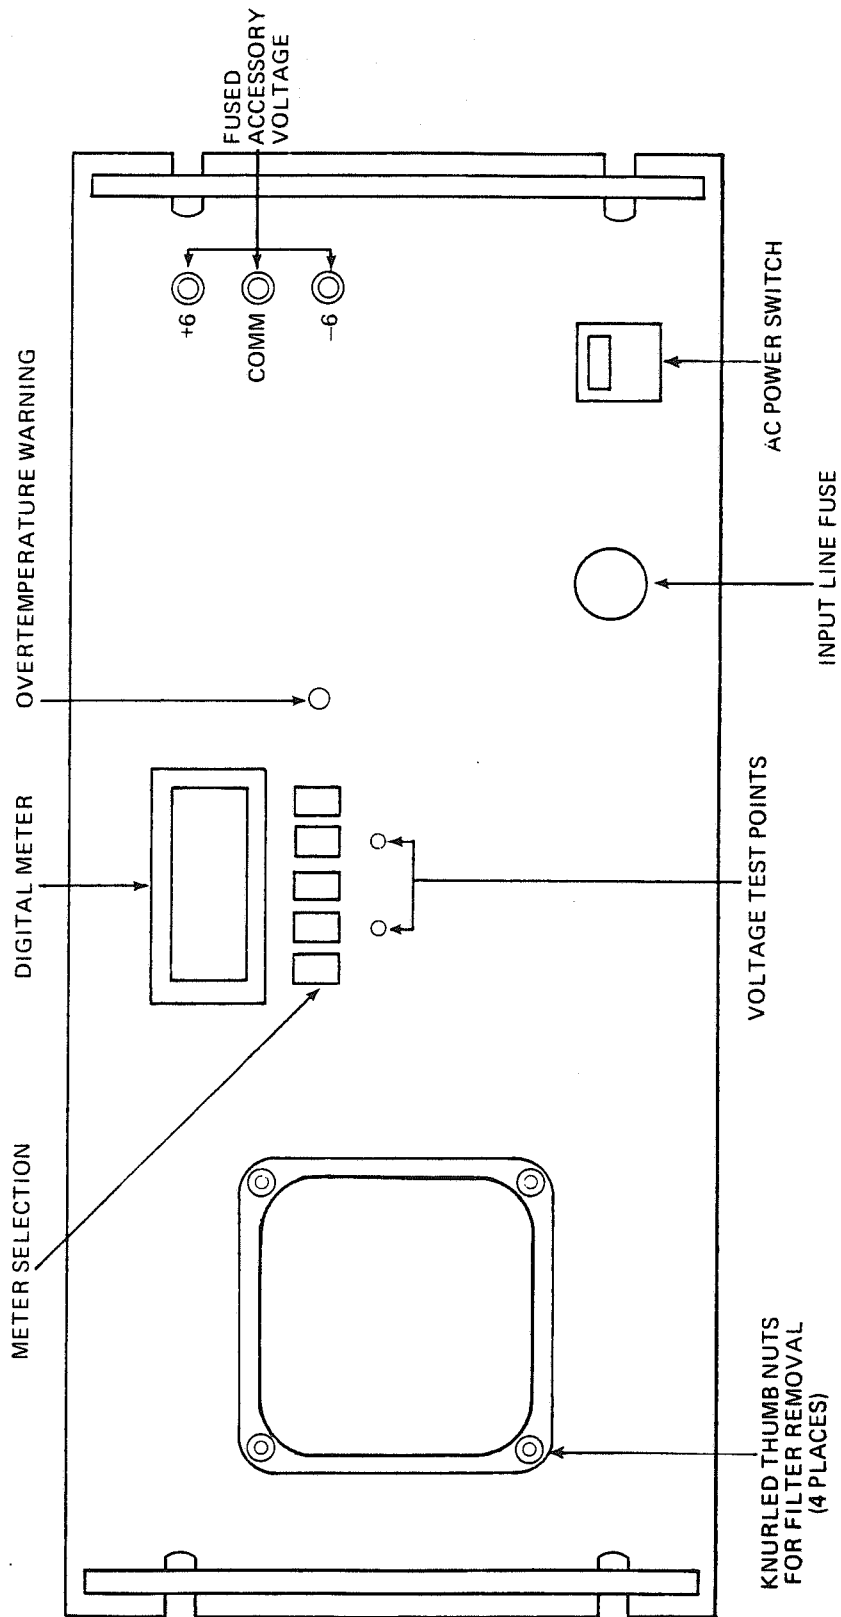

Figure 3 - Power Supply Unit Front Panel
Connect the power cord to the power supply receptacle and, **after assuring that the front panel power switch is off ("0")**, connect the power cord to the primary power. The power switch is located on the front panel of the power supply unit. See Figure 3.
4. The voltages should be checked on the power supply front-panel LCD meter as follows (Refer to Figure 3):